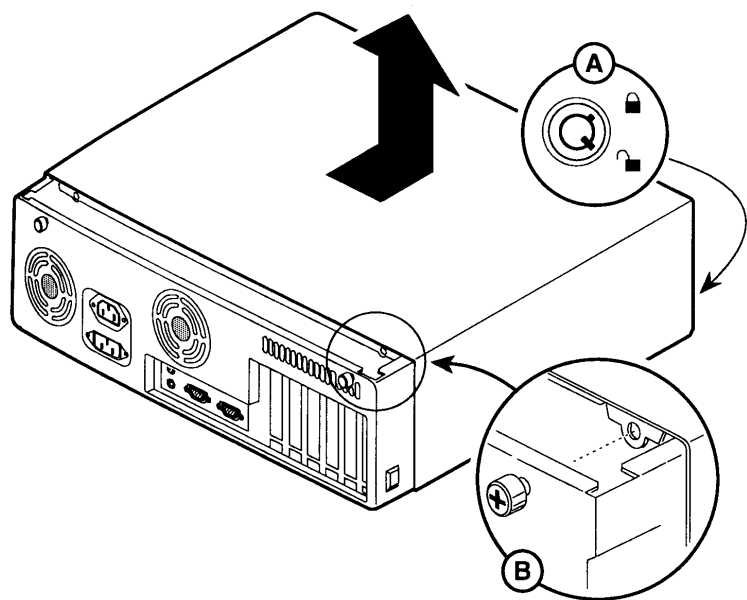

Figure 2
4. The system cover is secured to the chassis with two spring-loaded, captive, retaining screws at the rear of the system (Figure 2) and a security lock at the front of the system (Figure 2).
Ensure that the security lock is in the unlocked position (Figure 2). If not, unlock it and loosen the cover retaining screws.
6. Using both hands, lift the cover (Figure 2) straight up from the chassis and set it aside.
7. The Digiboard can cause communication problems if the connecting screws of the Digi cable are improperly secured. There is one type of Digiboard cable which may not connect properly with the Digiboard (see Figure 2).